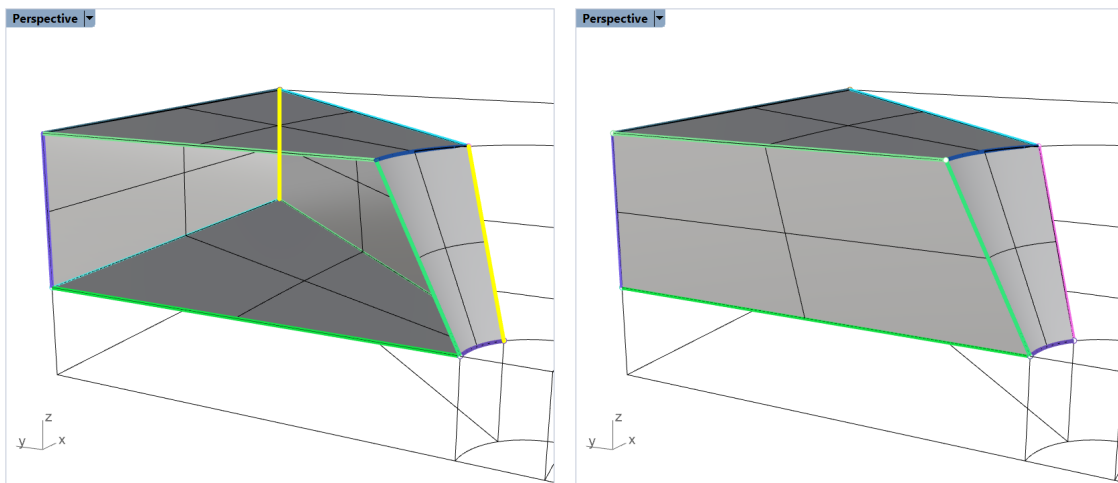

Figure 44: Building surfaces of the first solid.
15. Now, select only pairs of lines/curves composing the remaining surfaces of the first solid and **_Loft** them. In total, six sides must be created as in Figure 44.